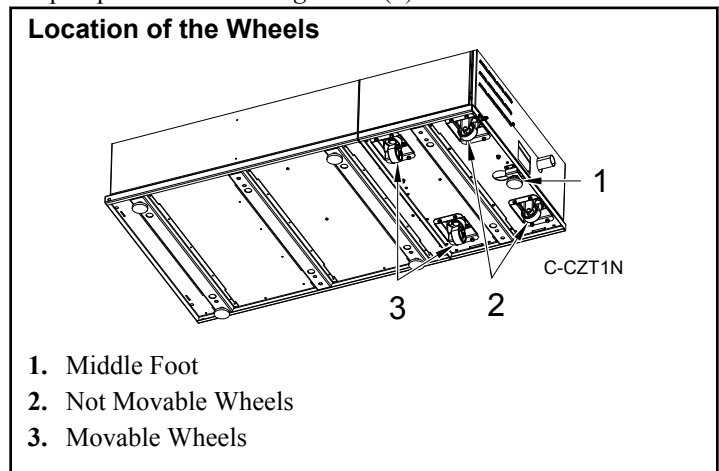

Figure 20
3. Mount the two moveable wheels (SP541494) to the heat pump base. Refer to *Figure 20* (1).
4. Mount the two not moveable wheels (SP551864) to the heat pump base. Refer to *Figure 20* (2).